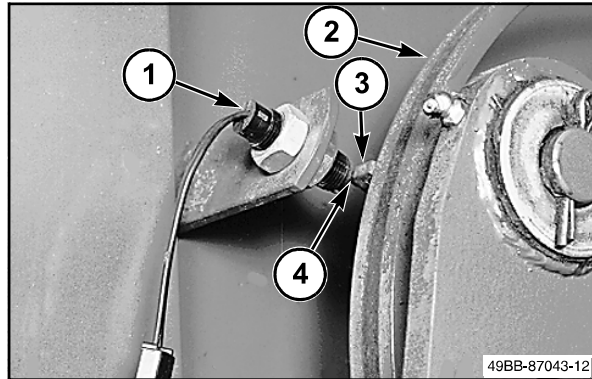

FIG. 49
FIG. 49: The stuffer cycle sensor (1) is actuated by a cam tab on the stuffer crank cam (2). Rotate the stuffer crank cam to align the cam tab (3) with the sensor. The clearance must be 0,25 to 0,50 mm (4). Adjust the sensor by loosening one nut on the inductive sensor and tightening the other. Do not tighten the nuts to more than 7 Nm.